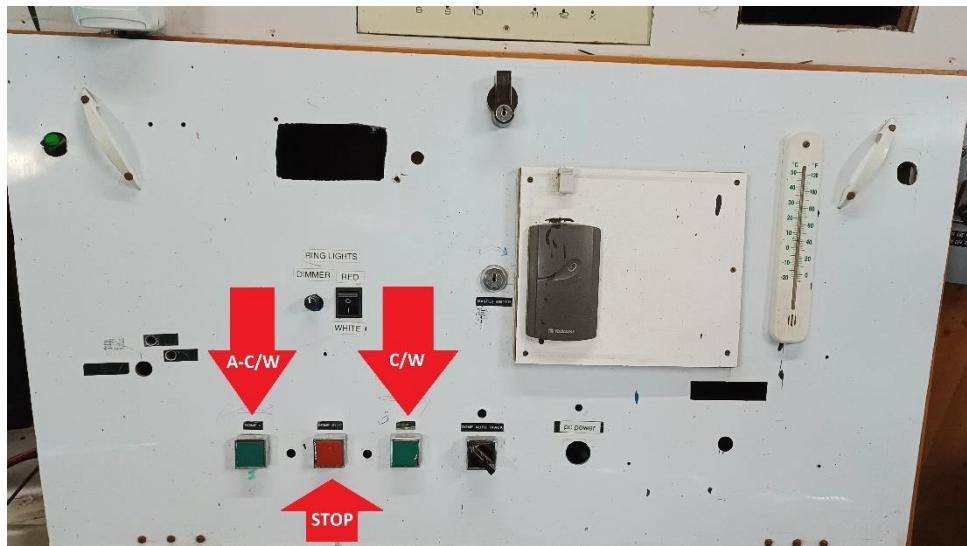

Fig. 17: Control Panel dome rotation switches
9) To rotate the dome round to allow viewing on the desired object through the dome aperture use the green/red square buttons on the Control Panel as shown in Fig. 17 below:
7) Next slew the DOME back round back to its HOME position (left-hand edge of the Dome Control Box roughly aligning with the right-hand side of the control panel (see Fig. 31 below) using the green/red buttons as before on the control panel (see Fig. 17). (Should there be a dome motor failure then you may need to use the Emergency Cable Procedure noted in H&S Section 10).